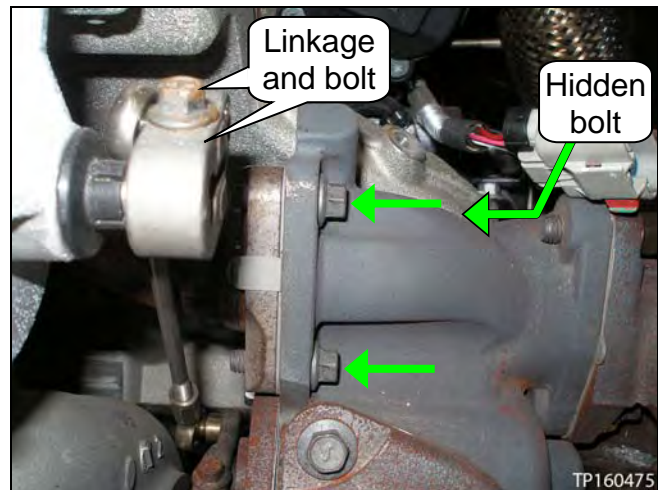

Figure 89
33. Install the three (3) EGR bypass tube bolts (see Figure 89).
34. Mount and secure the rotary turbine control valve upper linkage (see Figure 89 and 90).